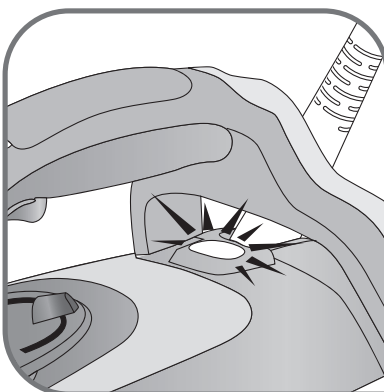

fig.5
- The light comes on. It will go out when the soleplate is sufficiently hot – fig.5.